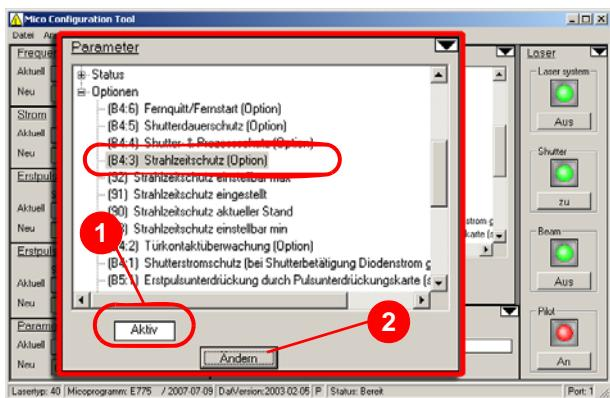

Figure 6.2 MCT software
3. Under "Options", check the activation of the beam protection time (1) (Figure 6.2).
4. If necessary, deactivate the setting by pressing the "Change" button (2).